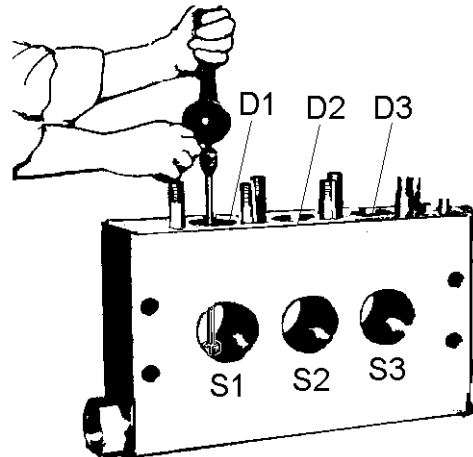

Figure 40 Lapping the Valve Seats
NOTE: Valves must be installed in the proper locations in the cylinder block. Each valve is etched with its location. (S1=bottom left when facing front of headblock) See Figure 40
4. Using the lapping tool apply a very light pressure to and turn the grinding tool. This should be sufficient to lap the valve to seat. See Figure 40.